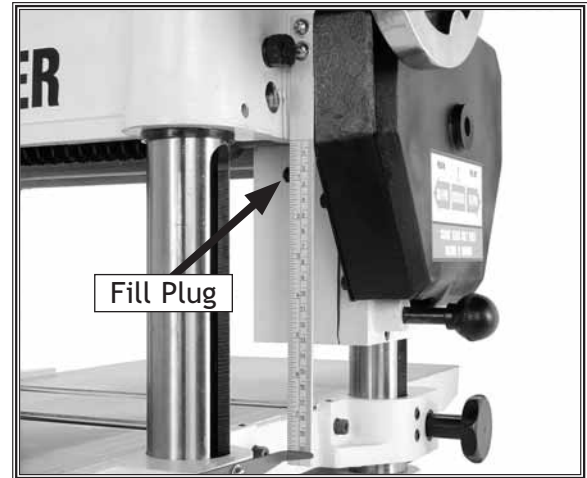

Figure 13. Gearbox Fill Plug.
1. Wipe dirt from the gearbox fill plug and remove it (Figure 13).